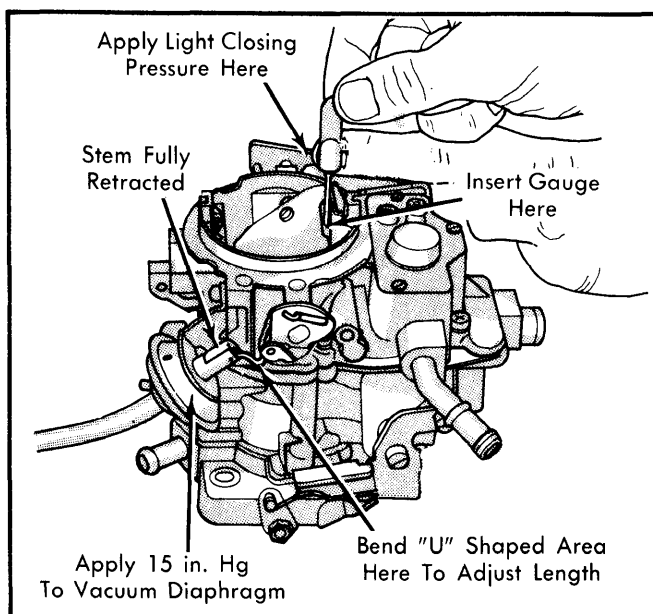

Fig. 4 Adjusting Choke Vacuum Kick
1) Open throttle and close choke. Now close throttle to trap fast idle cam in closed choke position. See Fig. 4.